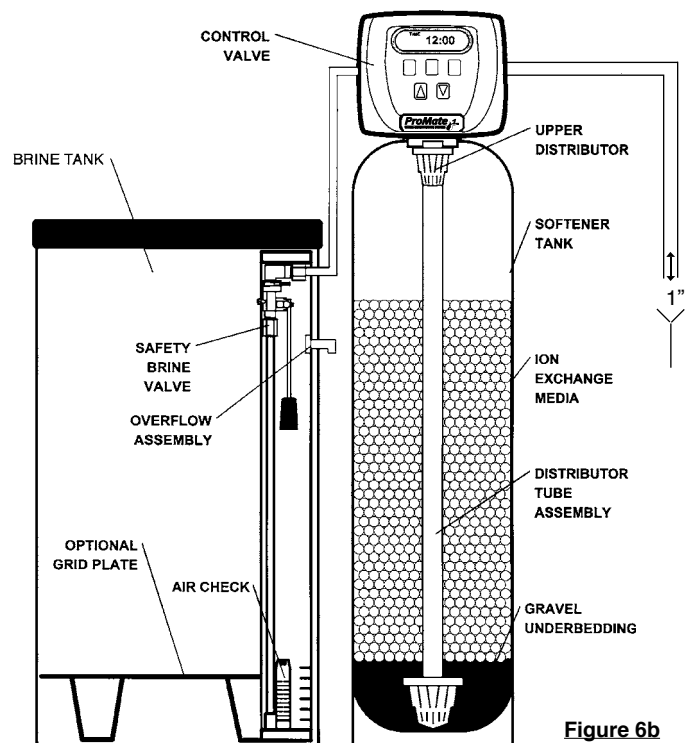

Figure 6b
8. Press the regen button until LED display says “BRINE”. Loosen the brine line from the top of the safety brine valve in the brine tank. Place finger over the end of the tube to check for suction. If no suction, see troubleshooting guide. (See #12, Page 14) If proper suction, reattach brine tube to safety brine valve, and allow it to draw water down to the bottom of the air check, (figure 6b, page 5).